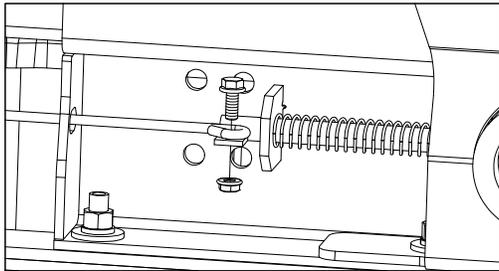

Figure H2: Looking up at center section.
- 2. Secure the handle.** Attach the handle to the latch pin as shown in Figure H2. The head of the bolt must be on the handle side, and the lock nut must be on the tab side. The tab is welded to the pin in an offset position so that the handle will be lined up over the center of the pin. If the handle is fastened to the other side of the tab, the handle will not function properly. When installed correctly the latch pin may be disengaged from the ball by pulling on the handle from the driver side wheel well and rotating the handle clockwise.